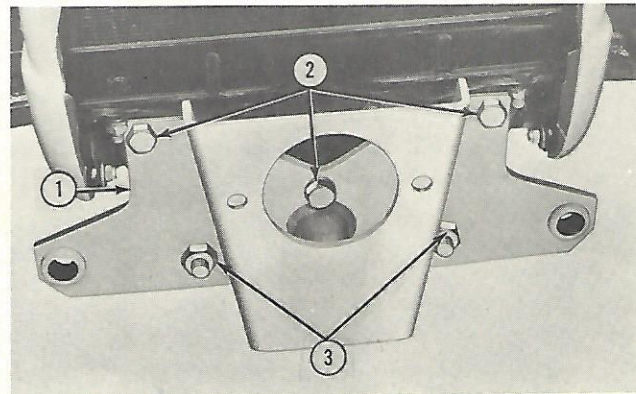

Figure 8
The Loader Attaching Kit, Component 19-342, consists of the pump mounting plate and attaching hardware shown in Figure 8.
5. Position the pump mounting plate assembly (1), Figure 8, over the front of the rods and install
6. Install the $3/4''$ self-locking nuts (3), Figure 8, and tighten securely.